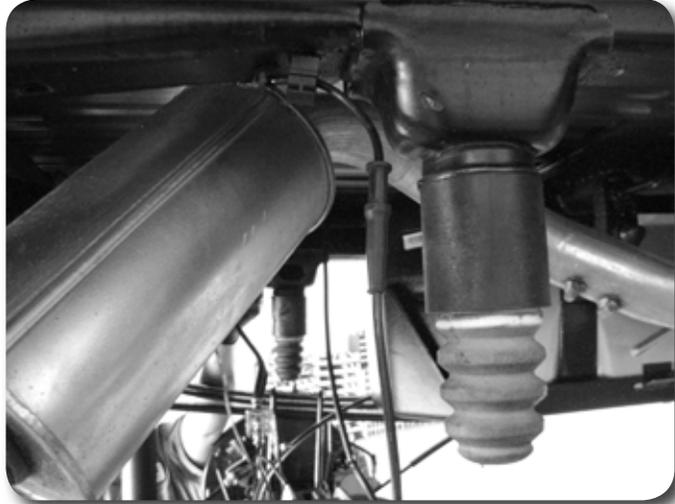

Figure 45
12. Remove the rear rubber bump stops from the frame. Access the bolt head up through the center of bump stop using a 10mm socket. Remove the bump stop and install the provided 3" diameter x 3" tall spacer between the bump stop and the frame mount with a 10mm x 110mm Allen head bolt (Loctite threads). Center the spacer on the lip of the factory bump stop cup and torque bolt to 35 ft-lbs **Figure 45**.